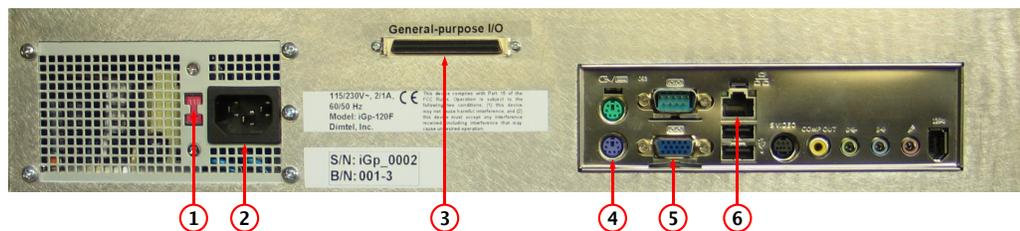

Figure 3: Rear panel features
**WARNING: Before connecting power to the unit make sure the voltage selection switch (Fig. 3, item 1) is in the correct position (115 or 230 V).**
1. Configure voltage selection switch (Fig. 3, item 1). Mains supply requirements for the iGp-5120F are listed in Table 8;
7. Connect a PS/2 keyboard (Fig. 3, item 4);
8. Connect a video monitor (Fig. 3, item 5);
Setup program is included in the IOC for configuring the important features of the iGp-5120F. The program can be executed locally or remotely. For local execution one must first connect a keyboard (Fig. 3, item 4) and a video monitor (Fig. 3, item 5) to the system. For remote setup, use `ssh` after system bootup to establish connection. In both setup methods the user must login as `root` (initial password is supplied with the system). If the newly received iGp-5120F must be configured remotely (when, for example, a keyboard or a monitor is not available), such configuration can be performed using a dedicated network. Set up a network consisting of the iGp-5120F, a network hub or a switch, and a remote computer. The iGp-5120F is delivered with the following network configuration:
- Make sure no cable is connected to the general-purpose digital I/O port (Fig. 3, item 3);